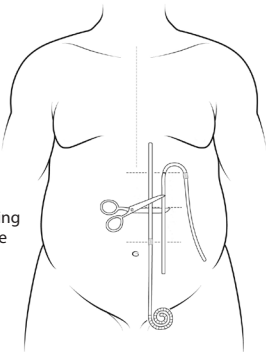

Figure 9
4. Using the provided tape measure, measure the distance between the secondary incision site, Rectangle , and the chosen union site. See Figure 9. Record that distance in centimeters, as "B". This will be the length needed of the Upper Catheter tubing from the marker ring to the catheter union site.
5. Subtract B from A to get the length of Lower Catheter tubing needed to reach from the location of the deep cuff under the fascia to the location of the catheter union. Record that distance in centimeters, as "C". See Figure 9.